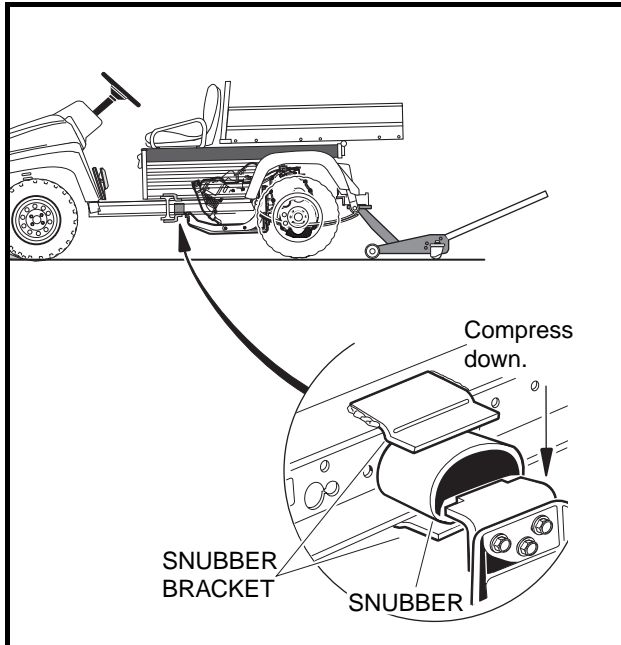

Figure 22 Compress Snubber Downward
8. Place a floor jack under the rear receiver hitch where the hitch and body frame are fastened. Lift the vehicle body slightly, allowing the front of the engine to tilt slightly downward. This will allow the oil filter more clearance under the electrical component box (**Figure 22**).